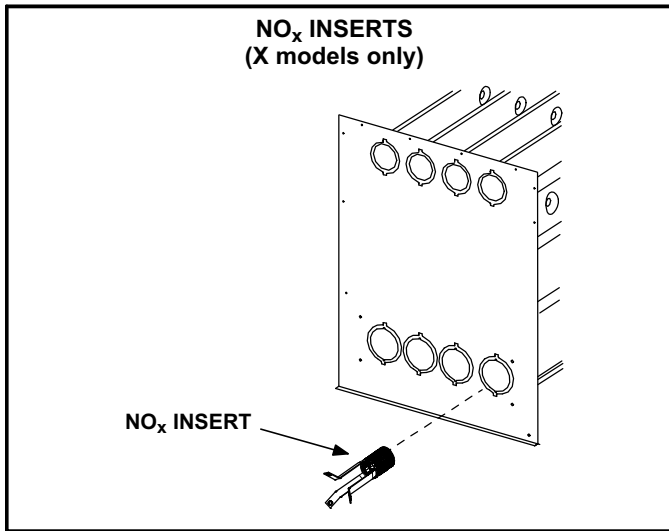

FIGURE 28
- 9 -**NOx units only** - Remove the three screws that attach the NOx insert to the corbel at the entrance to each heat exchanger section. Carefully remove the NOx insert from each section. See figure 28.
- 19 -**NOx Units** - Reattach the NOx inserts to the corbels at the entrance to each heat exchanger opening. See figure 28.